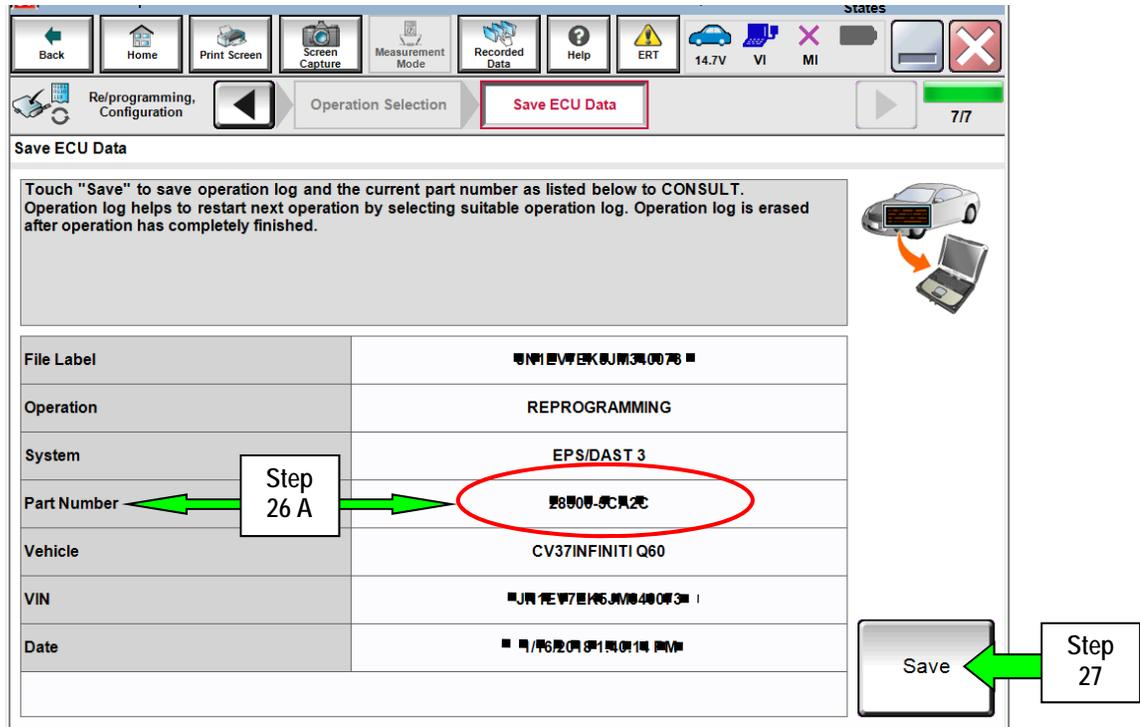

Figure 15
26. When you get to the screen shown in Figure 15, confirm reprogramming is needed as follows: